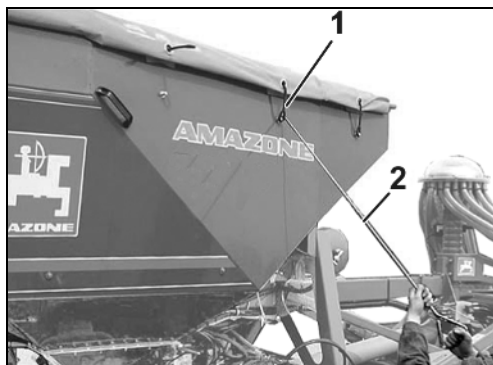

Fig. 103
3. Close the hopper cover and secure by using the rubber loops (Fig. 103/1) against unintended opening whilst travelling. Use the hopper cover hook (Fig. 103/2).